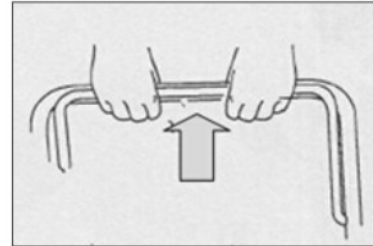

Fig 2A
a) Standing behind the unit, grasp the brake control handle and hold it against the upper handle. (Fig 2A)